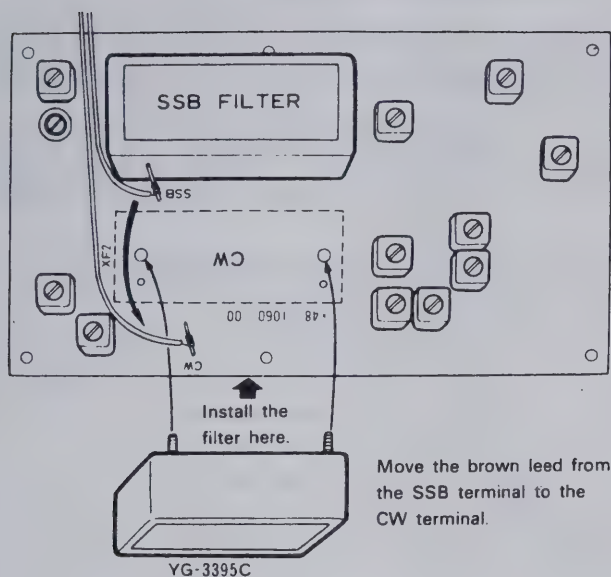

Fig. 30 Installing the Accessory CW Filter
■ INSTALLING THE CW FILTER (See Figure 30)
Remove the top and bottom covers from the transceiver (be careful of the speaker leads). Locate the IF board (it holds the SSB crystal filter) and move the brown wire from the SSB terminal to the CW terminal, as shown in Figure 30.